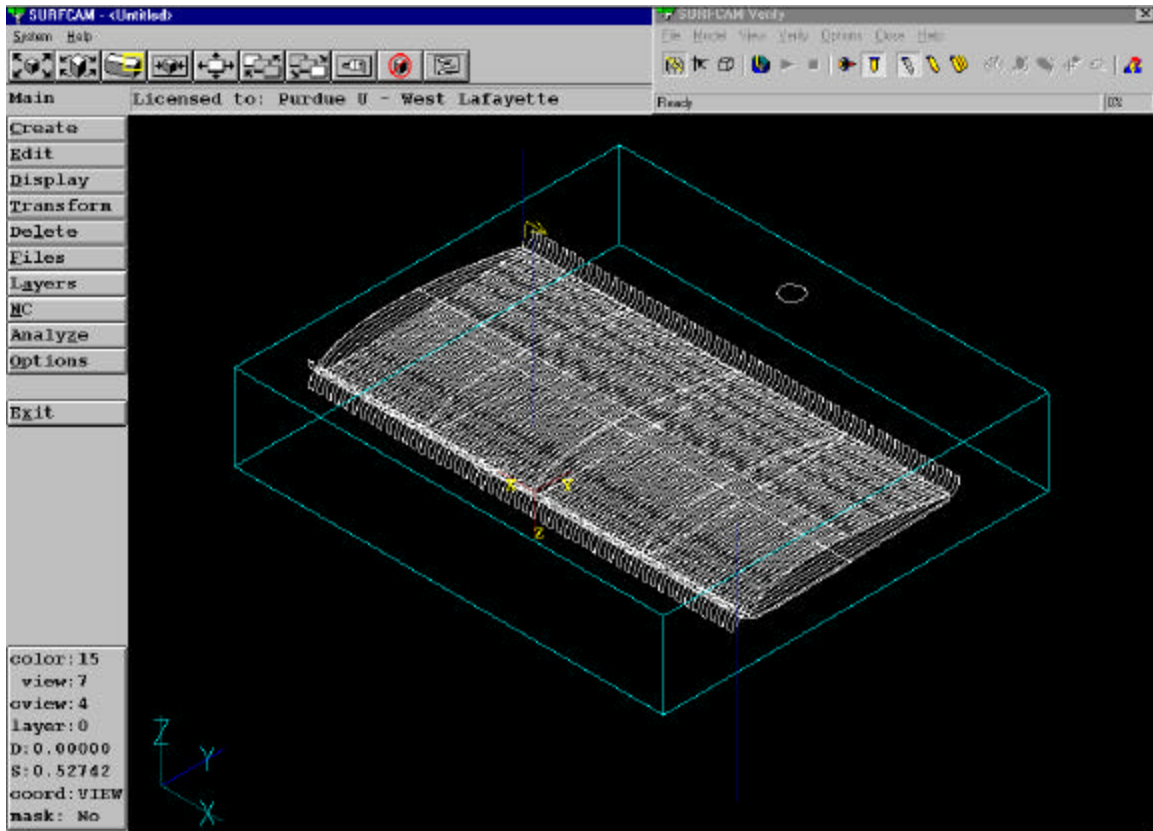

Figure 20: Wing ready for simulation, with SurfCAM verify toolbar in upper right hand corner
- 4.) Click ADD. A blue box will appear around the wing on the screen, surrounding the area to be machined. See figure 20.